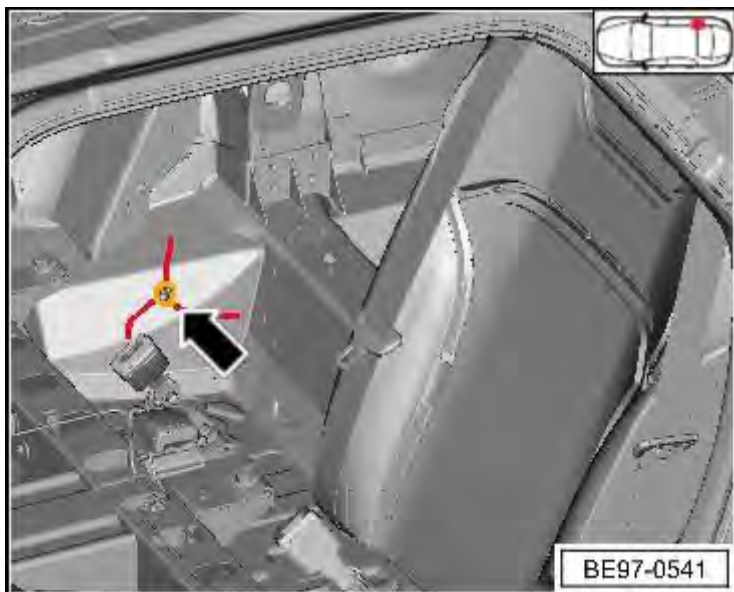
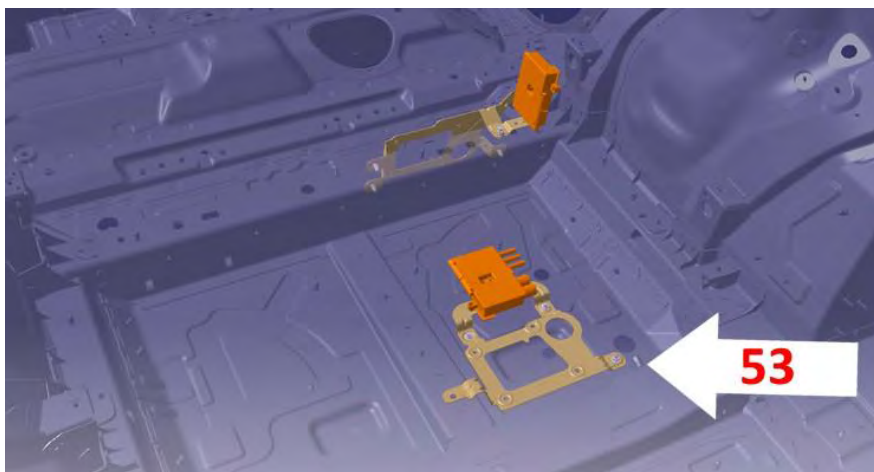

Figure 3
Figure 4
IMPORTANT: Figure 3 shows the earth point (730) on 4/5 seat specification vehicles - Figure 4 shows the earth point location (53) for 7 seat specification vehicles
- **4 and 5 seat variants** - Referring Figure 3 and the Repair manual wiring diagrams locate earth point **number 730**
- **7 seat variants** - Referring Figure 4 - Locate earth point **number 53** (Situated to the right hand side of the rear floor panel) to gain access remove the rear bench assembly - 3rd row - Refer to Repair manual Rep. Gr 72 Rear bench seat assembly - 3rd row (7 seat) - to remove and fi